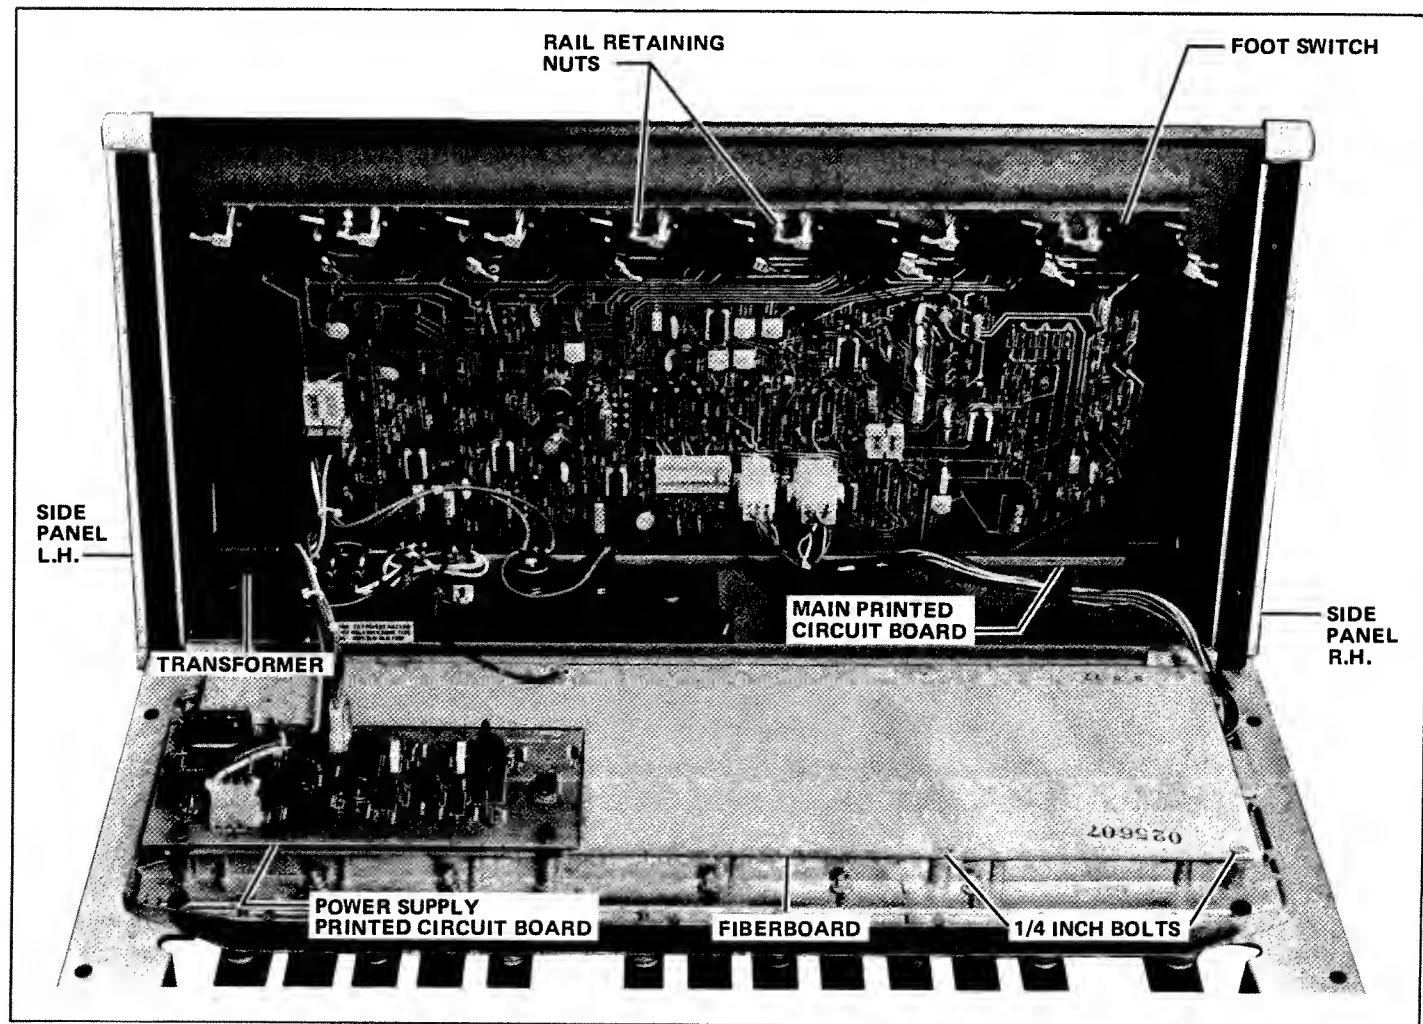

FIGURE 3-1 TAURUS WITH FOOT PEDAL AND SHELL HOUSING SEPARATED
- c) With foot pedal and shell housing now separated, open unit and lean both parts together to form a "L" shape as shown on Figure 3-1.
3.2 PRINTED CIRCUIT BOARD DISASSEMBLY (Figure 3-1)
3.4 FOOT PEDAL CONTACT REMOVAL (Figure 3-1 and 3-2)